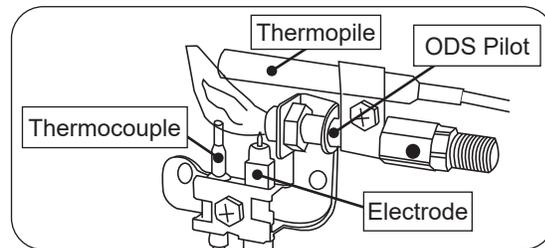

Fig. 27-3 ODS Pilot assembly detail
3. Locate the pilot assembly on the burner system (see Fig. 27-3).
Turn the flame adjustment knob counterclockwise  toward **LO** to decrease the flame height. Turn clockwise  toward **ON** to increase the flame height. See Fig. 27-3.